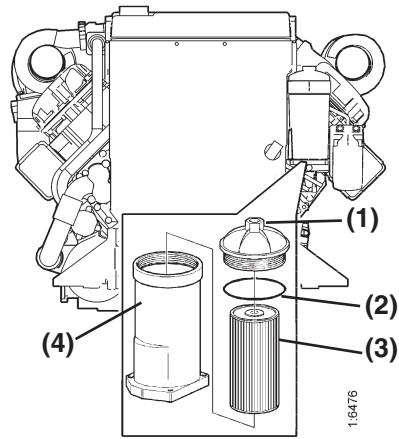

Figure 1
2. Turn the engine oil filter lid (**Figure 1, (1)**) clockwise with a box wrench to remove.
3. Lift out the filter housing lid (**Figure 1, (1)**) with filter (**Figure 1, (3)**). The filter housing will drain automatically once the filter has been removed.
4. Remove the filter element (**Figure 1, (3)**) from the lid (**Figure 1, (1)**) by carefully bending the filter to one side.
5. Remove the O-ring (**Figure 1, (2)**) from the lid (**Figure 1, (1)**).
6. Lubricate a new O-ring with clean engine oil and install in the lid (**Figure 1, (1)**).
7. Press a new filter element (**Figure 1, (3)**) into the snap fastener in the lid.
9. Replace the filter lid (**Figure 1, (1)**) and tighten to 25 N·m (18 ft·lb).